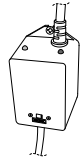

Figure 8
20. Once power is activated you can check the ballast (12), Figure 8, to see if the CLEARRAY System is functioning. A solid green light indicates that the CLEARRAY System is being provided power and should always be on. A solid red light indicates that UV bulb is activated.